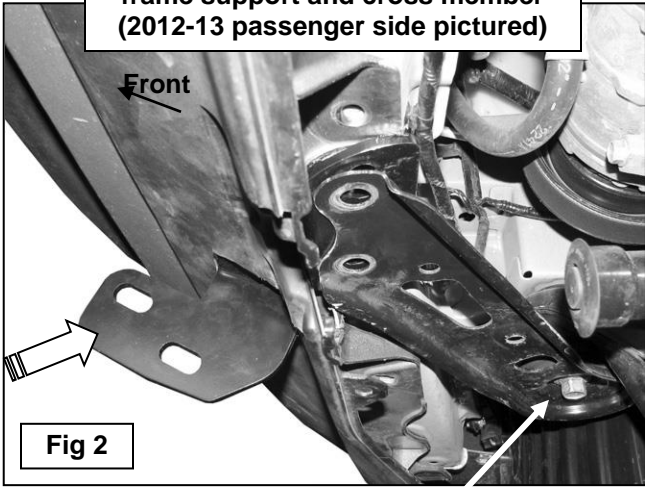

Fig 2
2. Locate and remove the two factory bolts securing the driver side frame support bracket to the front cross member, **(Figures 1A & 1B)**. Pull down on the support bracket just enough to slide the driver side Mounting Bracket between the frame bracket and the cross member, **(Figure 2)**. **VERY IMPORTANT:** Only install one Mounting Bracket at a time. Do not pull down too hard or you may bend the frame bracket. If more room is required to insert the Mounting Bracket, loosen but do not remove the large hex bolt at the end of the frame support bracket, **(Figure 2)**.
- a. **Info for 2012-13 models only:** Slide the Bracket up in position as previously described to check fitment, **(Figure 2)**. Note that the plastic mounting plate attached directly to the body for the air dam will need to be trimmed slightly to clear the Brackets. Remove as little material as possible to install the Bracket. **IMPORTANT:** Do not cut off any of the mounting tabs for the air dam.